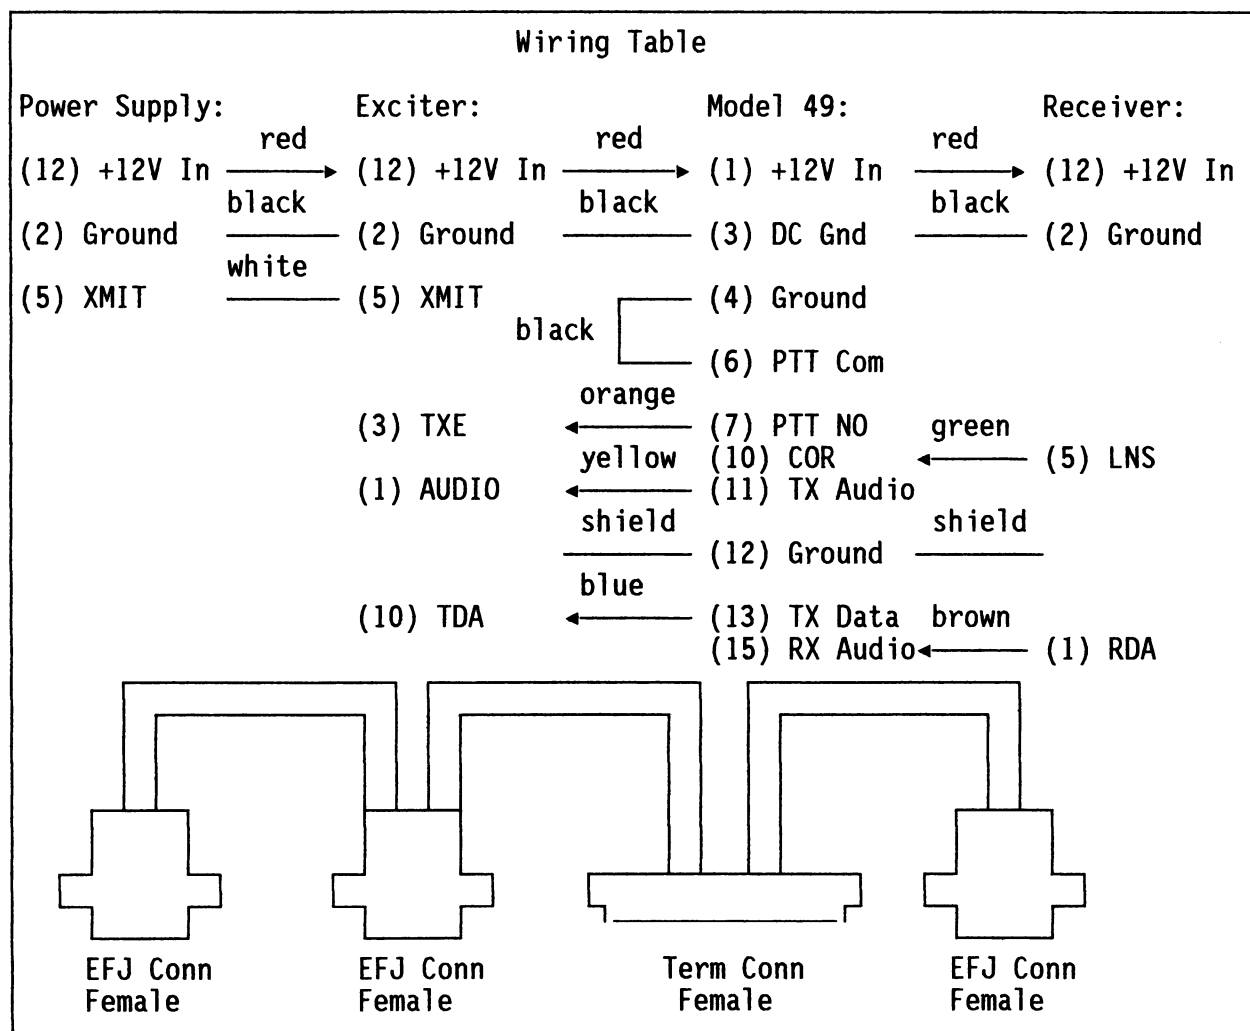

Figure 4-3. Model 49 to E.F. Johnson 800 MHz Repeater Cable (P/N 709-7117)
- [4]. Attach the Zetron cable harness to the Model 49, EFJ Exciter, EFJ Receiver, and EFJ power supply (P/N 709-7117). Note that each connector is marked. Connect the Model 49 to the E.F. Johnson repeater with the repeater cable. See Figure 4-3.